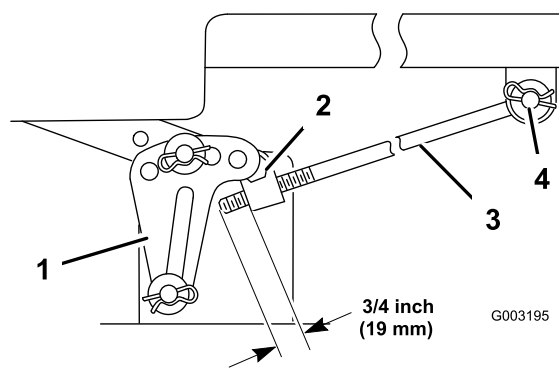

Figure 45
5. Measure the length of the rod extending out of the adjusting block on the sides of the chassis (Figure 45).
6. If the rod length is **not** a 3/4 inch (19 mm), remove the hairpin cotter and washer from the end of the adjusting rod (Figure 45) and turn the rod until the 3/4 inch (19 mm) dimension is obtained.